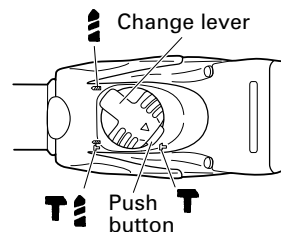

Fig. 13
This rotation hammer can be set to hammering only mode by pressing the push button and turning the change lever to the **T** mark with the drill bit holder installed. (Fig. 13)
(3) Turn the change lever to **T** mark. (Fig. 13)